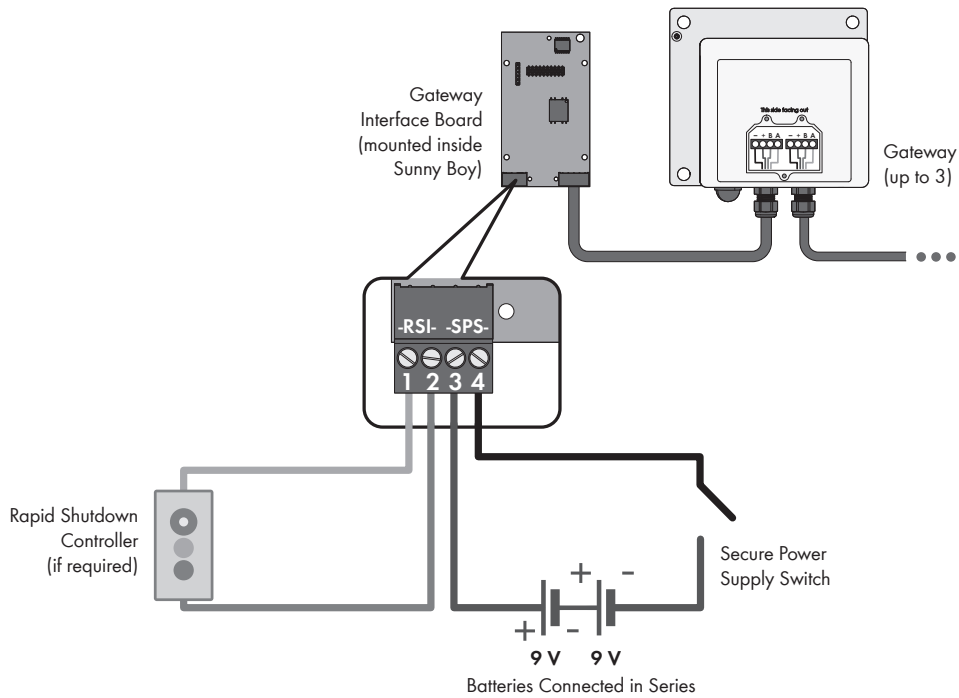

FIGURE 1
3. There are two 9-Volt batteries connected in series (18-Volts in total) connected to the high voltage side of the Secure Power Supply Switch (as shown in Figs. 1 and 2)